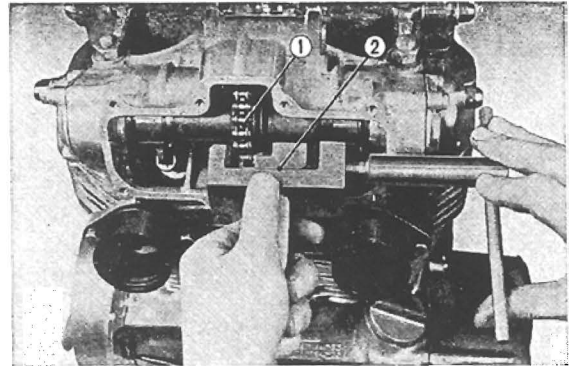

Fig. 3.23 Staking the cam chain joint
6. Stake the cam chain joint by using the special tool. (Refer to Fig. 3.23)